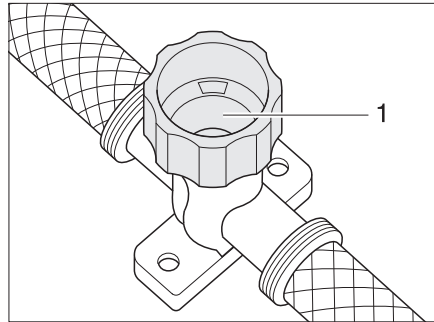

Fig. 122 Drain cock for water heater
- Close the drain cock. To do so, turn the cap (Fig. 122,1) clockwise.
- Open the drain cock of the water heater. To do so turn the cap (Fig. 122,1) anti-clockwise.